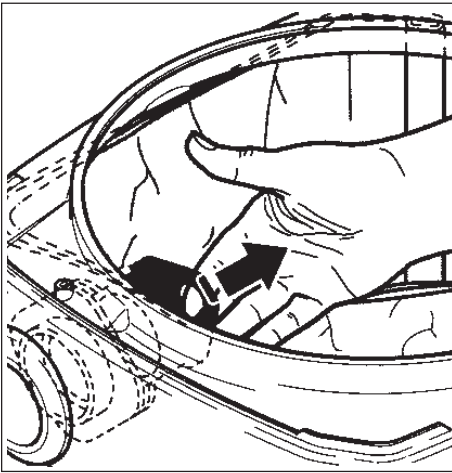

Figure 7
1. Pull the bag-type filter sleeve off the inlet fitting. See Figure 7.